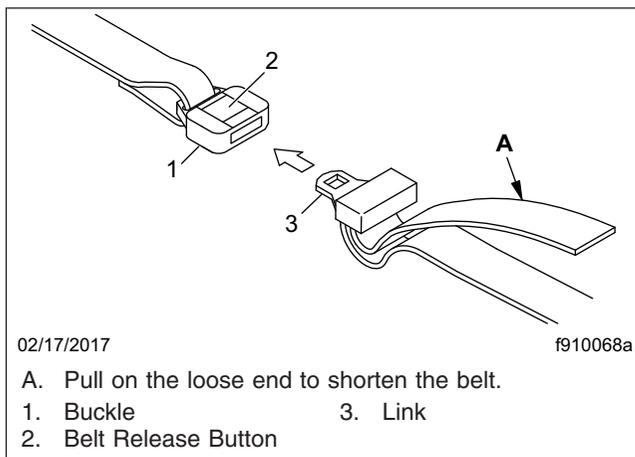

Fig. 9.12, Bunk Restraint Adjustment
3. After the belt is connected, shorten it by pulling on the loose end until the belt is snug, but comfortable. Be sure the belts are not twisted. See **Fig. 9.12**.